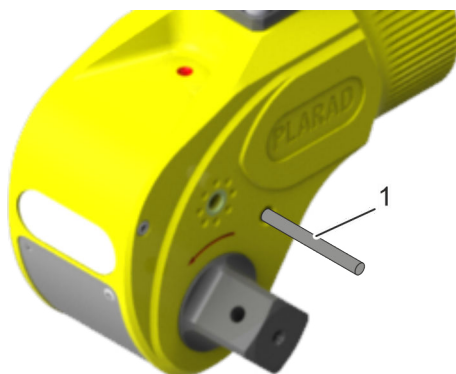

Fig. 32: Allen key
5. ➔ Insert the longer end of the Allen key (Fig. 32/1) into the vacated hole to hold the ratchet lever in this position.